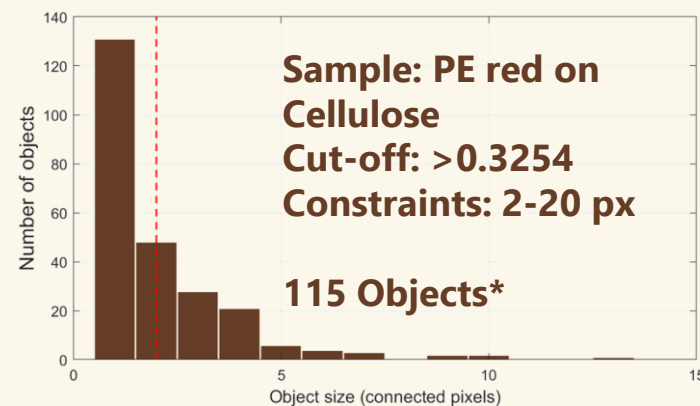

Fig. 7. Object size distribution; dashed line marks the 2-pixel minimum.
2. Report counts as a proxy for the number of particles only (Fig. 7)